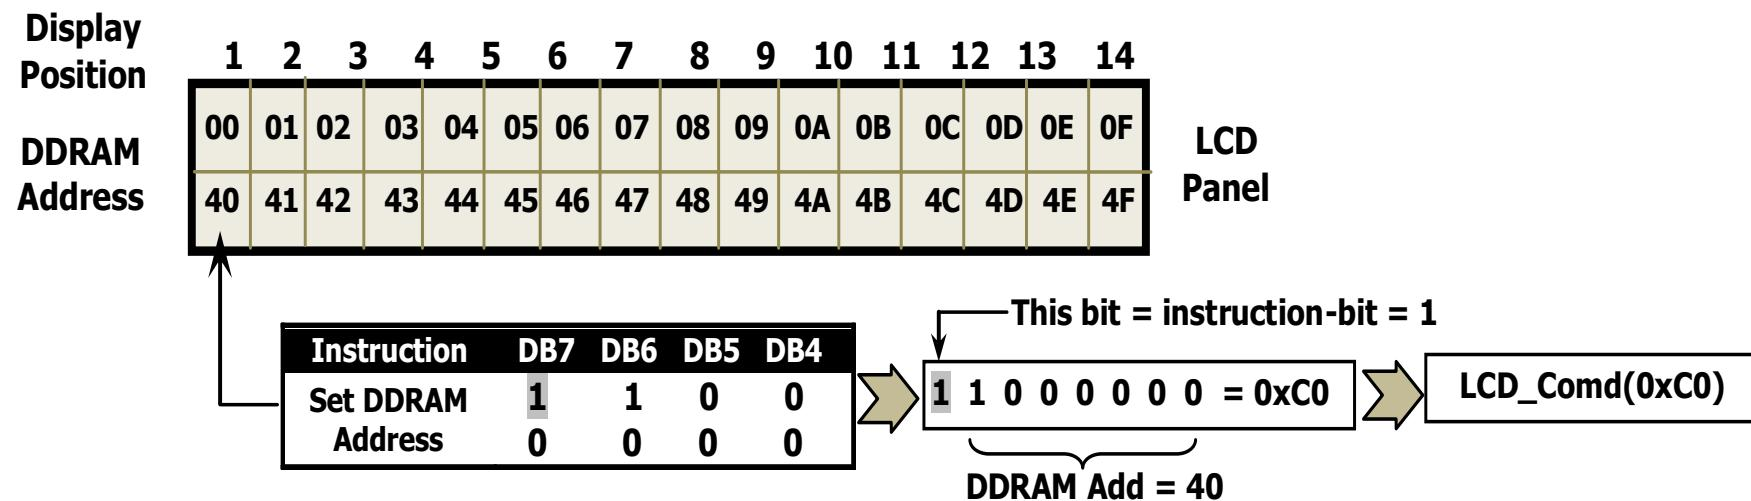

Figure 8.30 The relationship between the LCD instruction and the DDRAM address.
- Figure 8.30 shows the relationship between the LCD instruction and the DDRAM address.